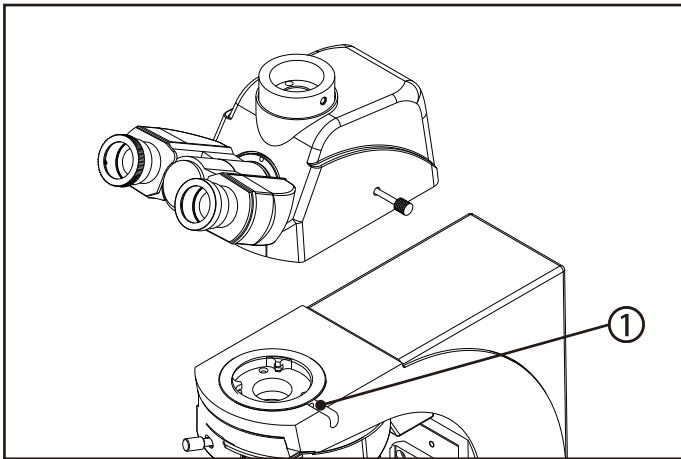

fig. 4
1. Loosen the fixed bolt ① on the microscope main body, but do not let it ① fall out.
2. Insert the trinocular viewing unit into the microscope head (Figure 4), turn to a proper position, let the two eyepiece tubes toward the front, then use the hexagon wrench screw down the fixed bolt ① to fix (See Figure 4).